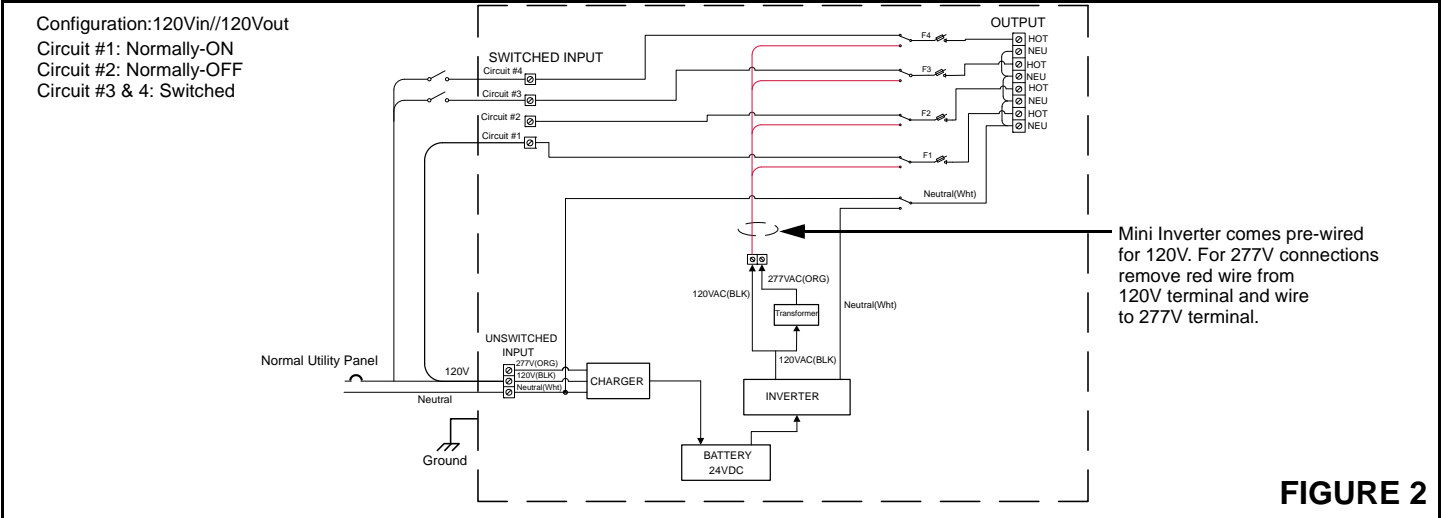

FIGURE 2
- a. Mini Inverter with option -4C can control four individual circuits (see figure 2).
- e. **Power supplied to the switched inputs must be fed from the same branch circuit as the unswitched input (see figure 2).**
- f. Unit is shipped from factory pre-set for 120V in // 120V out and configured for Normally-On load operation (see figure 2). This configuration can be changed to fulfill customer's application.
STEP 2: CONFIGURATION OF OUTPUT VOLTAGE (SEE FIGURE 2 AND 3)
- d. The neutrals of circuit# 1, circuit# 2, circuit# 3 and circuit# 4 are shorted at the output terminal block as shown in figure 2.